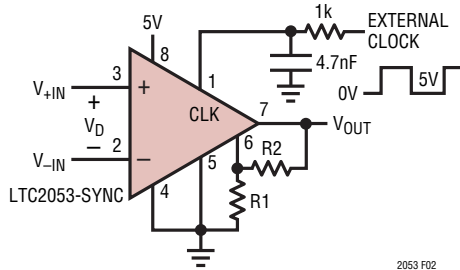

Figure 2. Driving the CLK Input of the LTC2053-SYNC
**LTC2053-SYNC.** If a square wave is used to drive the CLK pin, a  $5\mu\text{s}$  RC time constant should be placed in front of the CLK pin to maintain low offset voltage performance (see Figure 2). This avoids internal and external coupling of the high frequency components of the external clock at the instant the LTC2053-SYNC holds the sampled input.
| D   | 12/15 | Corrected title for Figure 2                              | 12          |